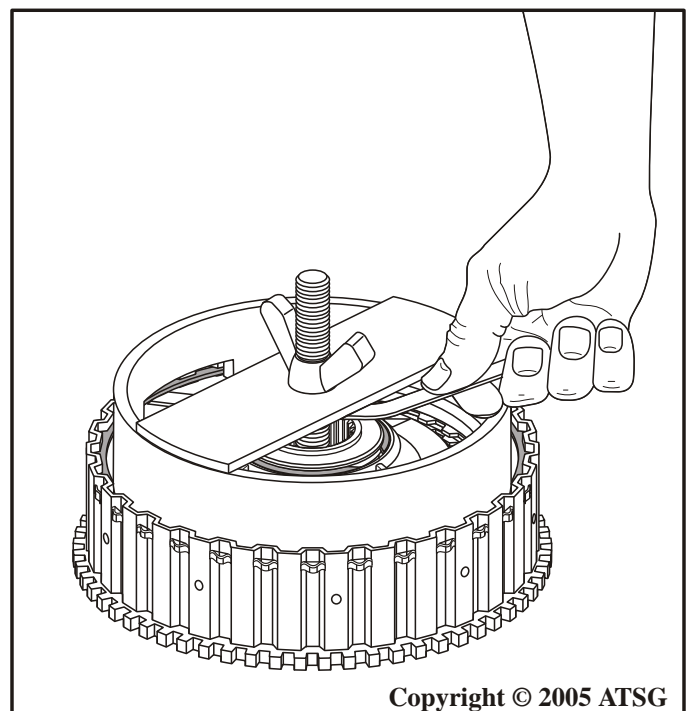

Figure 118
Note: Underdrive lined plates are "Waved" on all models and must be compressed as shown in Figure 118 to achieve the proper clutch clearance reading. The underdrive friction plates were changed in May, 2000 to a friction with a less perceptible wave, but must still be compressed.
16. Compress the plates and measure with feeler gage between snap ring and backing plate, as shown in Figure 118.